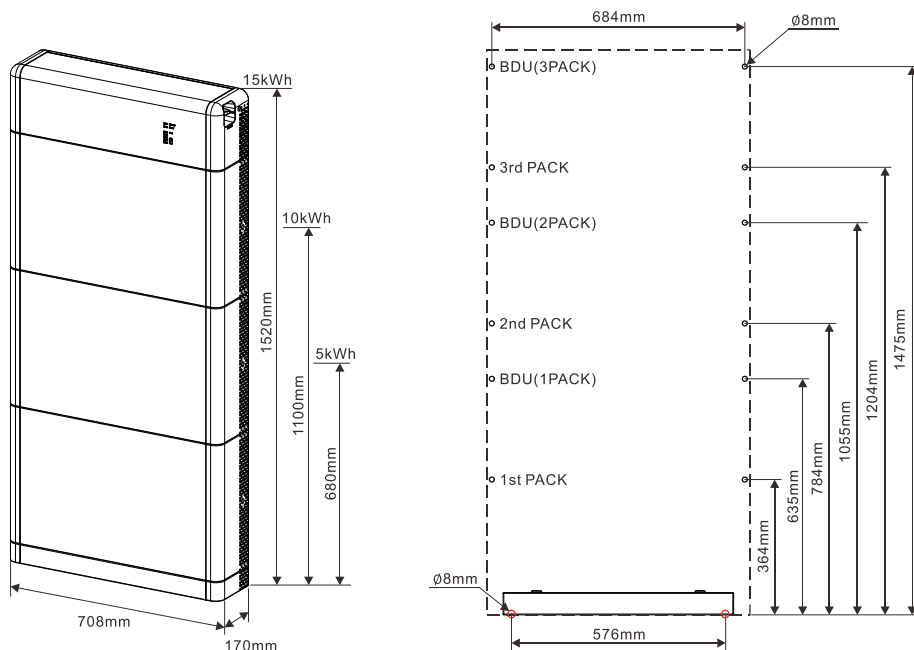

Figure. 3-3 System installation dimensions diagram
3) Mark the holes for fixing the battery module and BDU with a marker according to the dimensions shown in Figure 3-3.